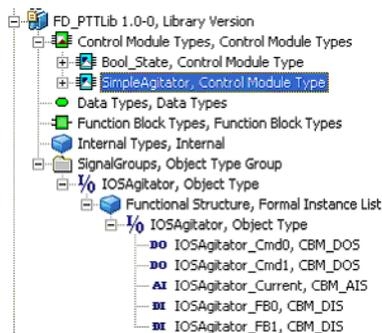

Figure 382. Object Type IOSAgitator
6. Add for each structured data type component the appropriate signal object below the Formal Instance List of object type IOSAgitator (see Figure 382).